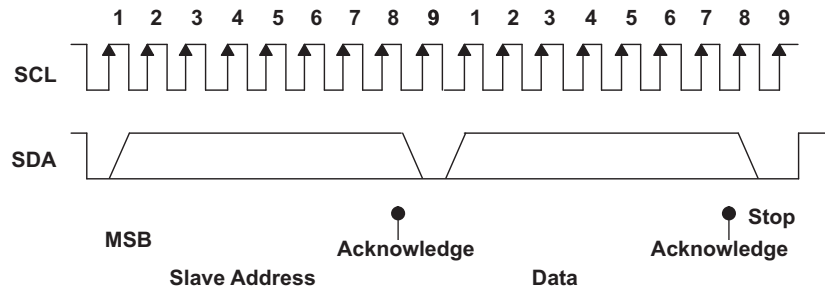

Figure 8. I2C Address and Data Cycles
- The master generates further SCL cycles to either *transmit* data to the slave ( $\overline{R/W}$  bit 1) or *receive* data from the slave ( $\overline{R/W}$  bit 0). In either case, the *receiver* must acknowledge the data sent by the *transmitter*. So, an acknowledge signal can either be generated by the master or by the slave, depending on which one is the receiver. The 9-bit valid data sequences consisting of 8-bit data and 1-bit acknowledge can continue as long as necessary (see Figure 8).